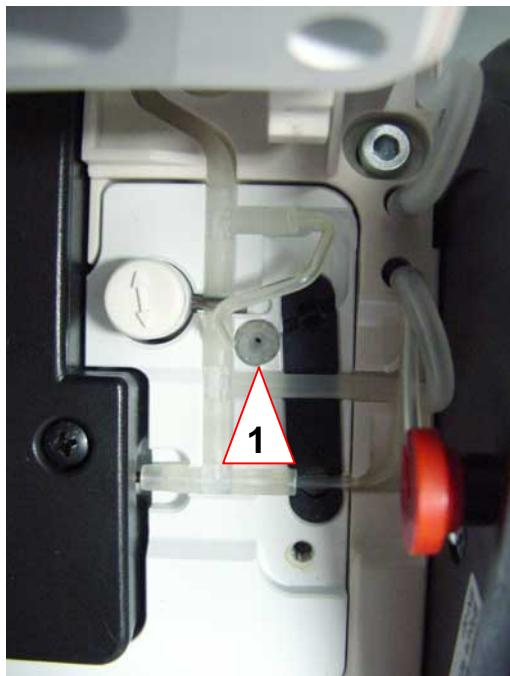

Fig. 3-19 Tube connection at FMS connector sealing 2
6. Pull the tube out of the FMS connector sealing 2 (see Fig. 3-19, 1).